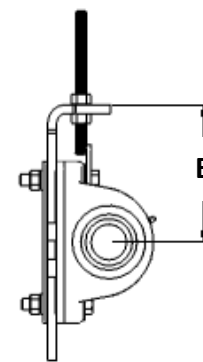

Figure 7-17: Apron/Paddle Shaft Chain Tension
- Tighten the shaft mounting bolts and the jam nuts on the adjusting bolts. Set the same dimension (B), shown in Figure 7-17, on both sides and secure the mounting fasteners in position. On wide-frame harvesters, set the same dimension (B) on the center mount as on the outer mounts.